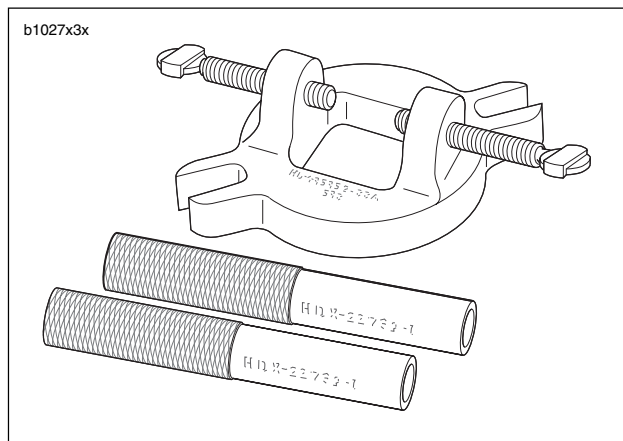

Figure 3-100. Connecting Rod Clamping Tool (Part No. HD-95952-33B)
1. See Figure 3-100. Secure connecting rod with CONNECTING ROD CLAMPING TOOL (Part No. HD-95952-33B).